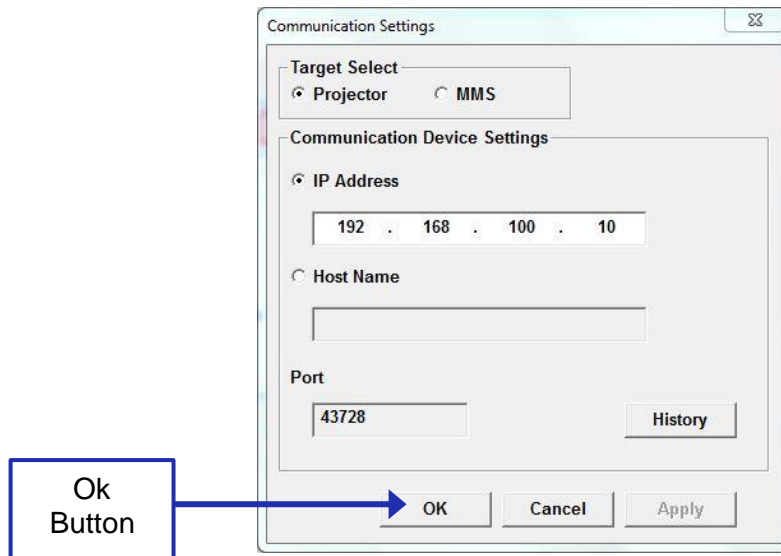

Figure 31: Communication Settings
- When first opened, the Communication Settings window will appear. Input the IP address of the projector and click Ok (Figure 31).